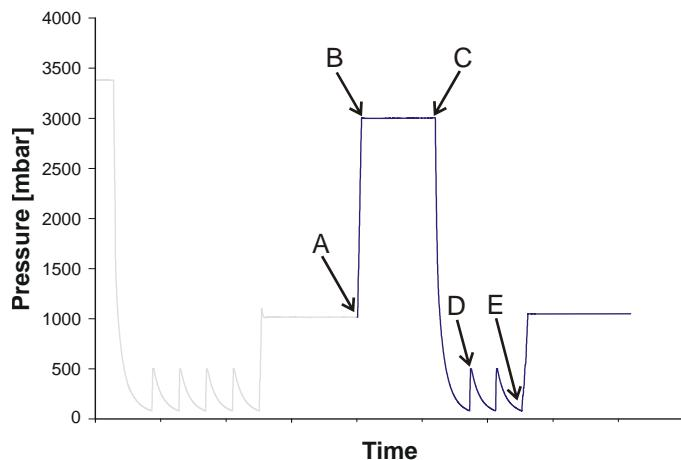

Figure 84: Flushing routine (cycles after optics exchange)
The automatic flushing routine is continued (see Figure 84).
- PREPARING LEAK TEST - PLEASE WAIT (see Figure 84, A):
- The laser device repeats the leak test (C) shown in Figure 84. At the end of the flushing routine, the laser tube is filled to 1050 mbar with inert gas.